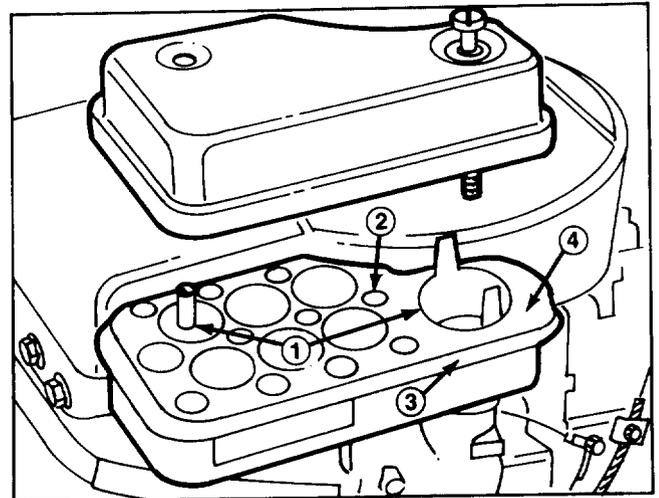

Figure 17
3. Remove cover and screen from foam element, remove spacers from element and element from body (Fig. 17). Examine element for dirt or discoloration and clean if necessary.